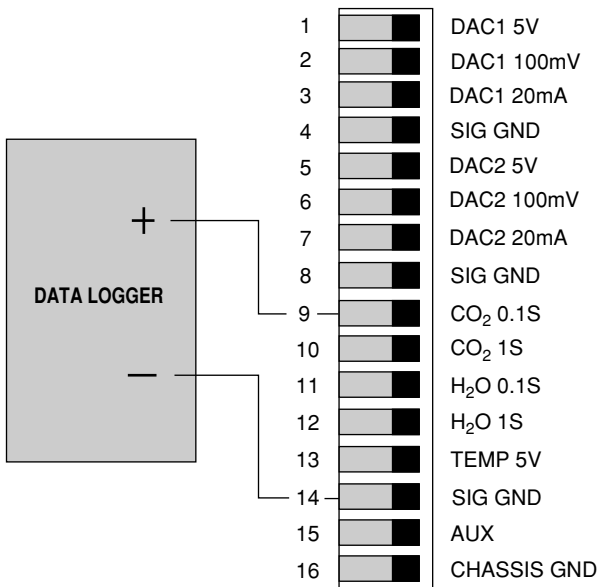

Figure 6-3. Connection of data logger for non-linear output.
- Connect the positive input of the data logger to the terminal labeled **CO₂ 0.1S** or **H₂O 0.1S** (see Figure 6-3).